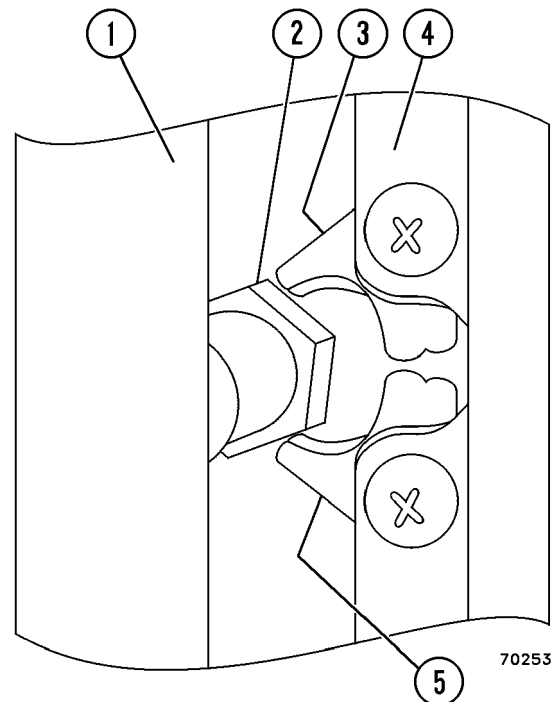

FIGURE 2-4. DOOR JAM BOLT ADJUSTMENT
Step B. If the door bucks back when trying to close it, the striker bolt (2, Figure 2-4) has probably loosened and slipped down from where the catch can engage with the bolt.
1. Open the door and close both claws (3 & 5, Figure 2-4) on the catch until they are both fully closed.